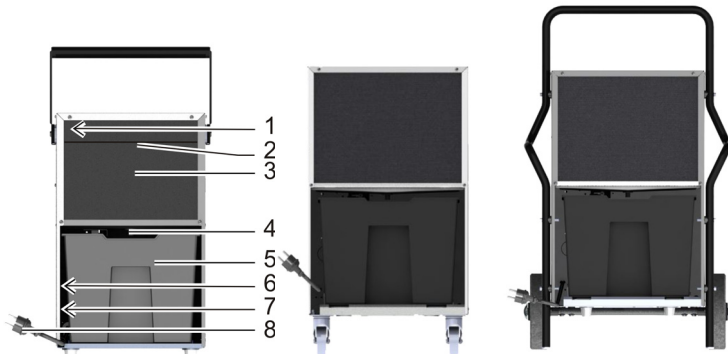

Fig. 2: Dehumidifiers AD Series 520 / 540, AD 560 / 580, AD 660 / 680
The water collecting container is located in the dehumidifier (Fig. 2, Pos. 5). The level of the water collection container is measured in all models via a float that will turn off the dehumidifier when the container is full.
3. Attach the condensation drain hose to the drainage plug (Fig. 2, Pos. 4) and secure it with a hose clamp.